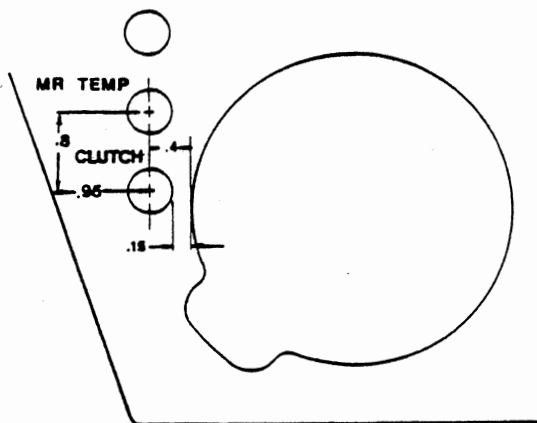

FIG. 1
2. Mark the new location for actuator light below MR temp. light on upper left console faceplate per Figure 1.
9. Clean & dry faceplate, then using a piece of masking tape lift 'Clutch' decal off its backing material and place on faceplate per Figure 1.